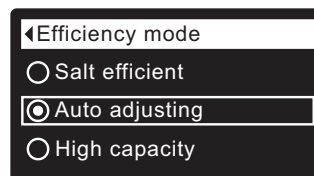

FIG. 138
- 8a. **Efficiency mode:** If the desired efficiency mode already has a dot next to it (See Figure 138), go to Step 9. Otherwise, press the DOWN (▼) or UP (▲) buttons to scroll to the desired efficiency mode, then press SELECT (O) to choose it.